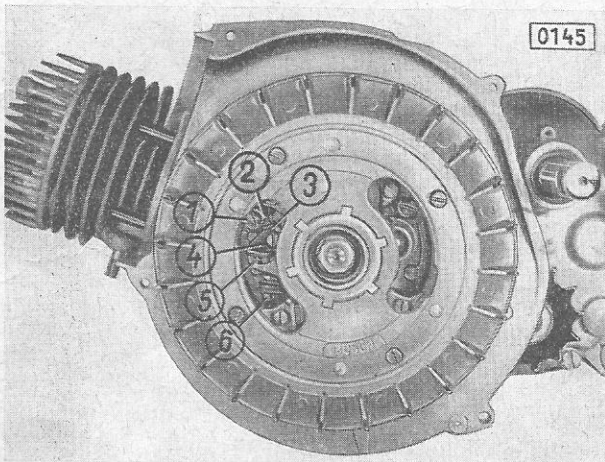
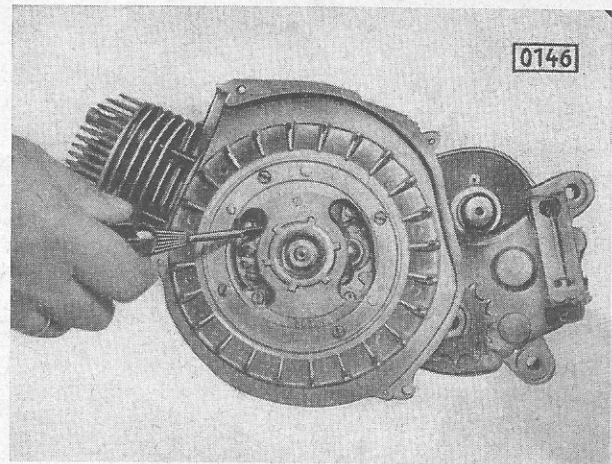

Fig. 18: Flywheel magneto:
Fig. 19: Adjusting the breaker gap
3. Mount flywheel and fanwheel (fig. 3/5): Fit washer and tighten nut. Mount fan housing (fig. 3/6) using 2 screws 20 mm long (0.7874 in.) at the rear, 2 short ones at the front. Ignition timing (fig. 18 and 19): Turn flywheel until the fully opened breaker gap (fig. 18/5) becomes visible thru the aperture in the flywheel. Measure the breaker gap which should be 0.4 mm (0.01575 in.) with a feeler gauge.
Burnt contacts should be smoothed with a contact file. Any correction of the gap that may prove necessary can be performed by adjusting the position of the contact carriers after having unscrewed the fixing screw (fig. 18/3). There is a small recess (fig. 18/3) on the contact carrier
and matching little stops (fig. 18/2) on the armature plate. Put screw driver thru recess on the contact carrier between the stops on the armature plate and adjust contact carrier by turning the screw driver (fig. 19). Moving the contact carrier upwards widens the gap, lowering the contact carrier reduces the breaker gap.
It is advisable to fit crocodile clips to the cable ends. While the breaker gap is closed one cable of the control lamp should be threaded thru the aperture on the flywheel and connected with the nut (fig. 18/6) of the screw that fixes the contact lever spring (this cable should not contact ground). The second cable is connected with the positive terminal of the battery. Another cable connected with the negative terminal should be brought in touch with the engine (ground), but not connected!
In case the divergence exceeds 0.5 mm (0.0196 in.) you readjust the sparking advance by turning the armature plate. For this purpose unscrew the armature fixing bolts (fig. 18/1) which are well accessible thru the apertures on the flywheel. Turning the armature plate to the left (sense of engine rotation) results in less sparking advance, turning to the right (against engine rotation) results in more sparking advance. Subsequently retighten the fixing bolts. In case the position of the breaker points or of the armature plate have been altered, you have to repeat the measuring procedure. If battery and control lamp are not available you may easily check the ignition point by means of a cigarette paper.